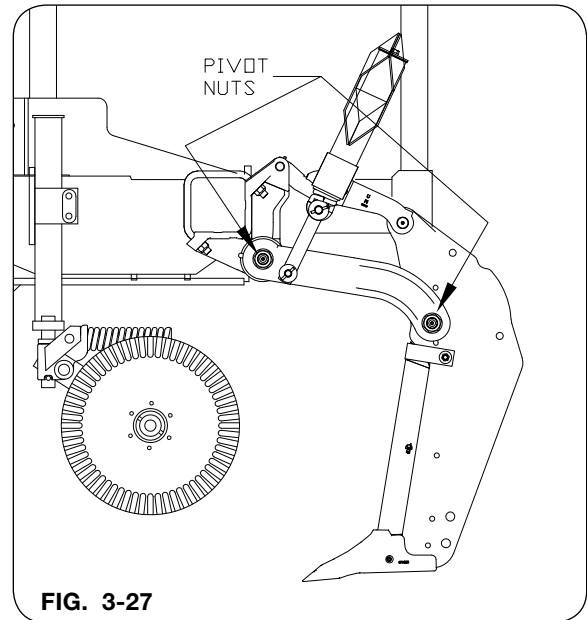

FIG. 3-27
2. Torque front and rear pivot bolts to 250-300 ft.-lbs. See Fig. 3-27. Loosen 1/2 turn. Keep all persons away from the shank, pull forward and raise the machine. The shank should automatically reset.
After an initial break-in period (approximately 20 acres per shank) it may be necessary to retighten the pivot nuts (Fig. 3-27) to eliminate side to side movement of shank.